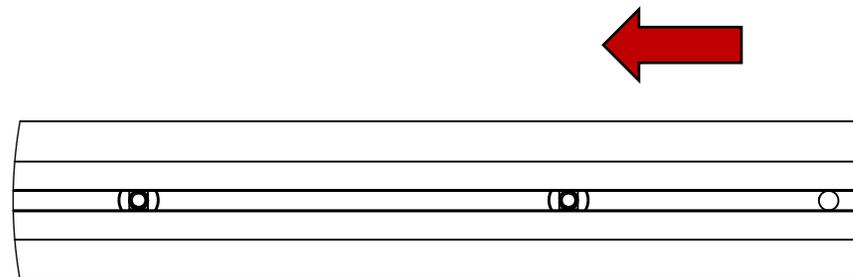

Figure 10
4. **Insert the Carriage Bolts into the slotted Crossbar.** Examine the Crossbars (Item No. 1) and notice that a slot runs down the length of each Crossbar. Insert (2) 1" Carriage Bolts (Item No. 10) into each end of each Crossbar – a total of 8 times. For the moment, arrange the Carriage Bolts about 9" apart as shown in Figure 10.